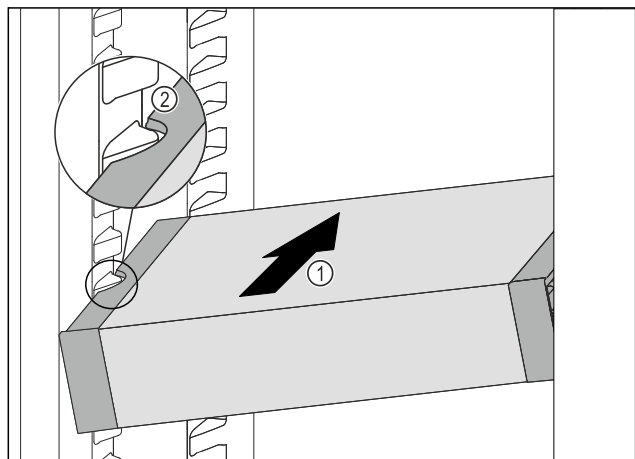

Fig. 200
- ▶ Insert the VarioSafe into the fridge section at an angle Fig. 200 (1) until the recesses in the side Fig. 200 (2) of the VarioSafe are at the level of the support rib in the fridge section.